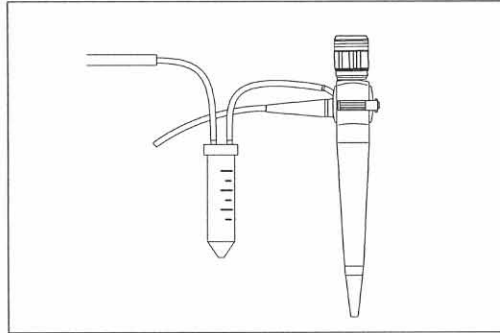

Figure 4.5
1. Disconnect the suction tube from the Suction Connector of the Suction Valve. Connect the suction tube from the Suction Pump to the suction connector of a commercially available BAL Kit. Connect the BAL Kit's suction line to the Suction Connector of Suction Valve. (See Figure 4.5)